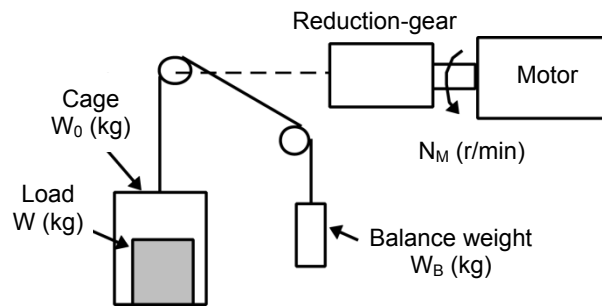
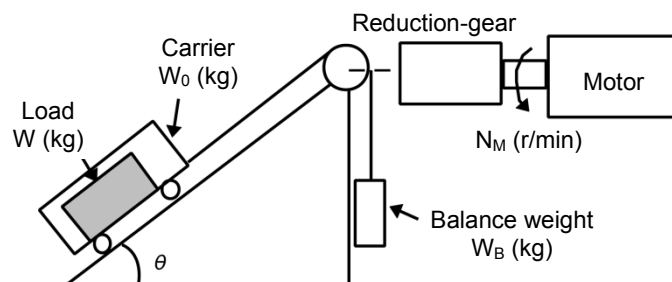

Figure 10.3-2 Vertical Lift Load
Figure 10.3-3 Inclined Lift Load
A simplified mechanical configuration is assumed as shown in Figure 10.3-2. If the mass of the cage is W_0 (kg), the load is W (kg), and the balance weight is W_B (kg), then the forces F (N) required for lifting the load up and down are expressed as follows:
If the incline angle is θ , and the friction coefficient is μ , as shown in Figure 10.3-3, the driving force F (N) is expressed as follows:
The moment of inertia J ($\text{kg} \cdot \text{m}^2$) of the loads connected with a rope as shown in Figure 10.3-2 and Figure 10.3-3 is calculated with the following equation using the mass of all moving objects, although the motion directions of those loads are different.